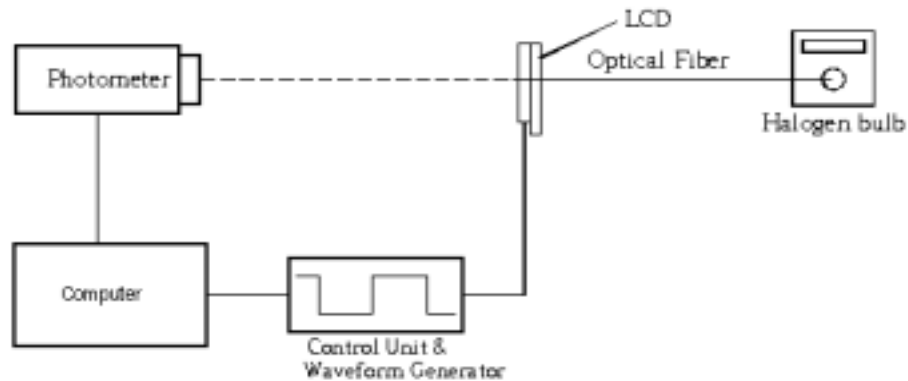

Fig. 1
- A. Contrast ratio is calculated by the following formula when the output voltage (Fig.2-a, positive type; Fig 2-b,negative type) is obtained from the next electro-optical test system (Fig.1)